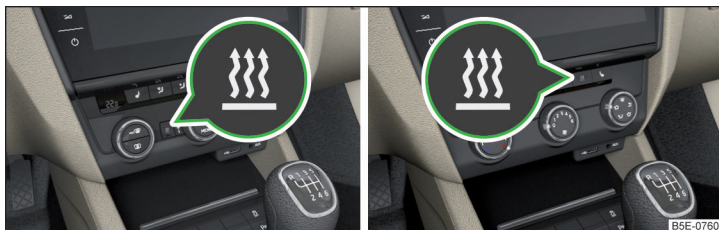

Fig. 139 Button for switching on / off (Climatronic / manual air conditioning)
- Using the button on the operating part of the air conditioning» Fig. 139.
When automatic switching on is activated, the warning light in the button lights up for about 10 seconds after the ignition is turned off » Fig. 139.